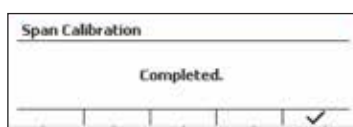

Figure 11
- The message "Completed" will display on screen. (See Figure 11)